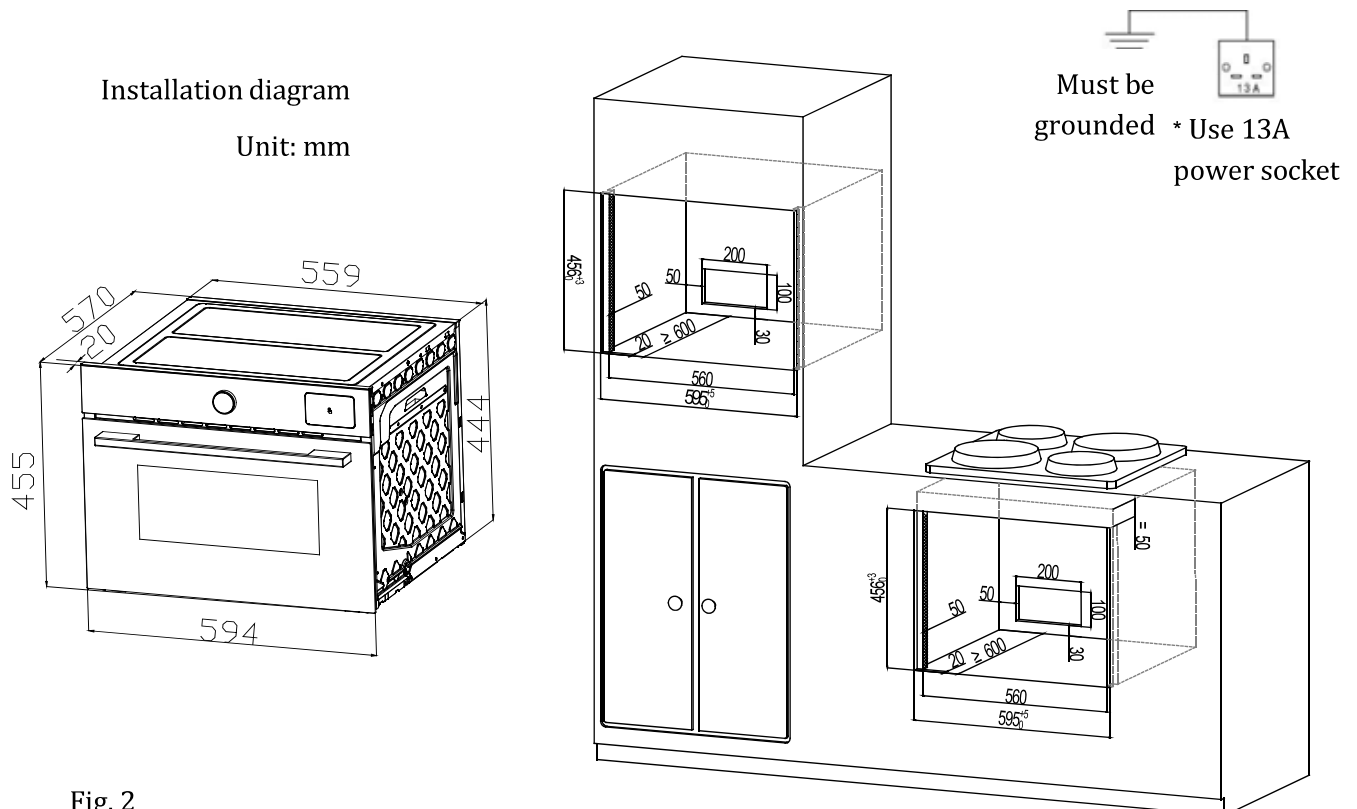

Fig. 2
5. To determine the position of the fixing holes, open the unit door and inspect it. To ensure adequate ventilation, secure the unit according to the measurements and clearances shown in the diagram below. (Fig. 2)